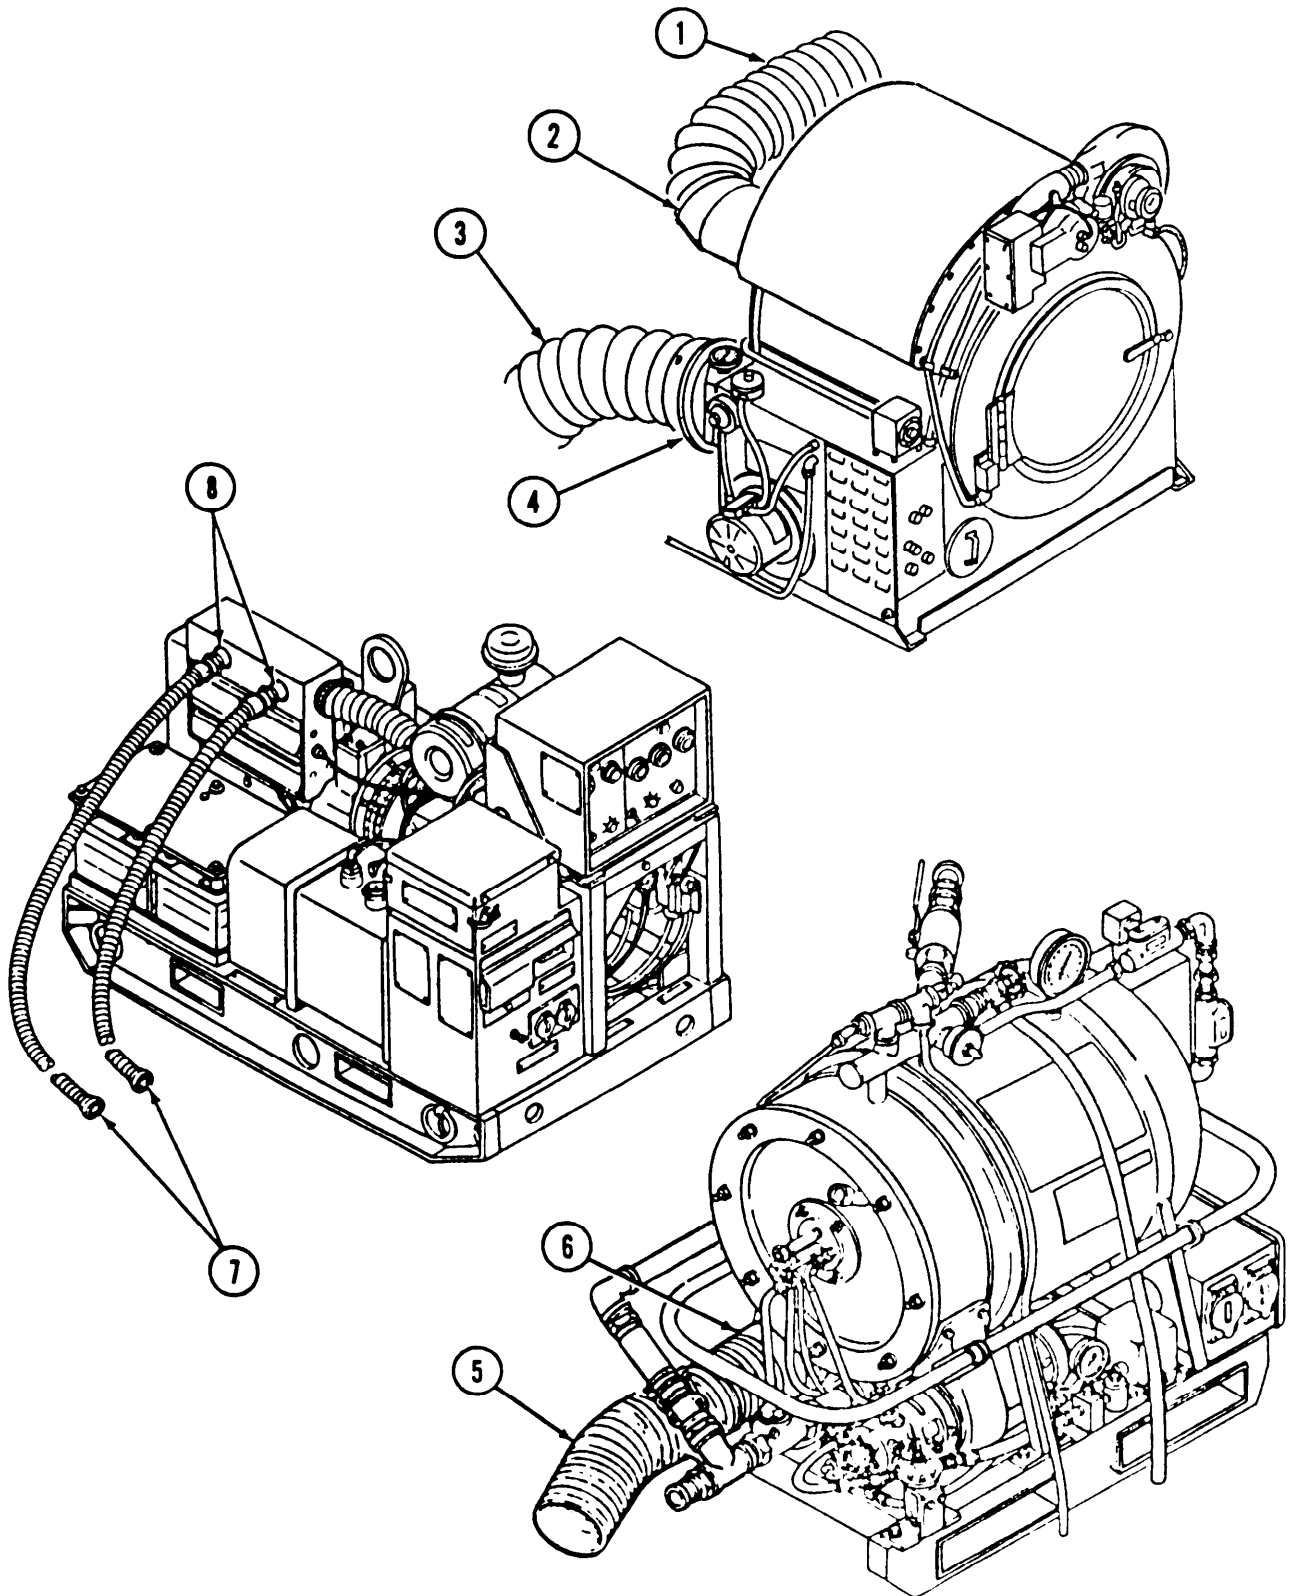

Figure 2-16. Exhaust Hose Connections.
Be sure that exhaust ducts (1, 3, 5, and 7, figure 2-16) do not touch or cross other exhaust ducts, power cables, fuel lines, or water hoses. Melting/damage can occur causing leaking fuel and water or electrical hazards. Death by electrocution, fire, or explosion could result.
- (2) Connect 5-inch (127 mm) combustion exhaust duct (1, figure 2-16) to dryer exhaust port (2). Extend duct away from trailer assembly. Do not touch or cross other exhaust ducts, power cables, water hoses, or fuel lines